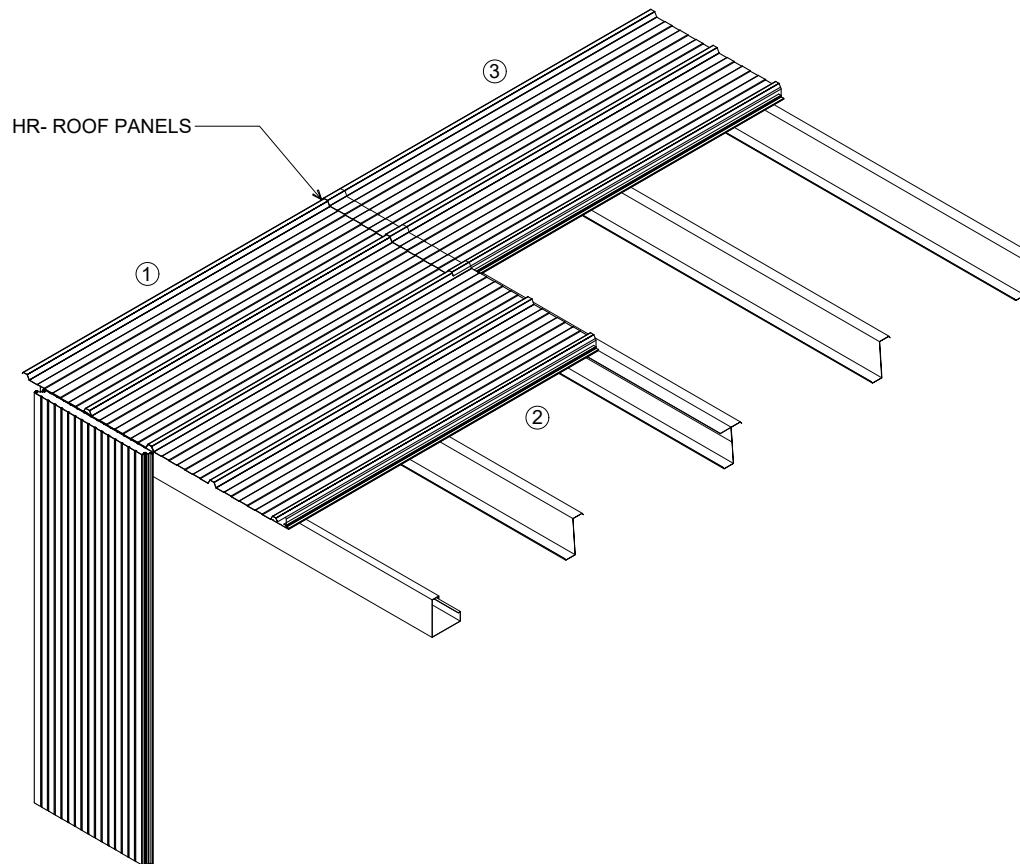

FIGURE 5
- 11.2 HR3 AND HR5 ROOF PANELS MUST BE INSTALLED IN A SPECIFIC SEQUENCE. THIS ENSURES THE CORRECT LAPPING OF THE SIDE AND END LAPS (SEE FIG. 5, BELOW). THE PANEL NUMBERS CORRESPOND WITH THE ORDER OF INSTALLATION.